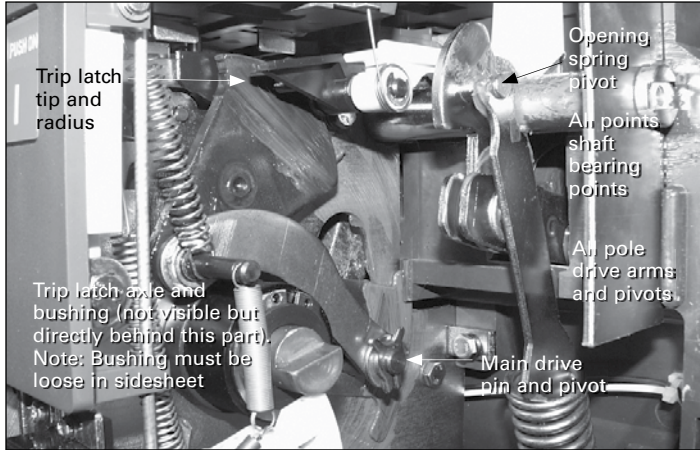
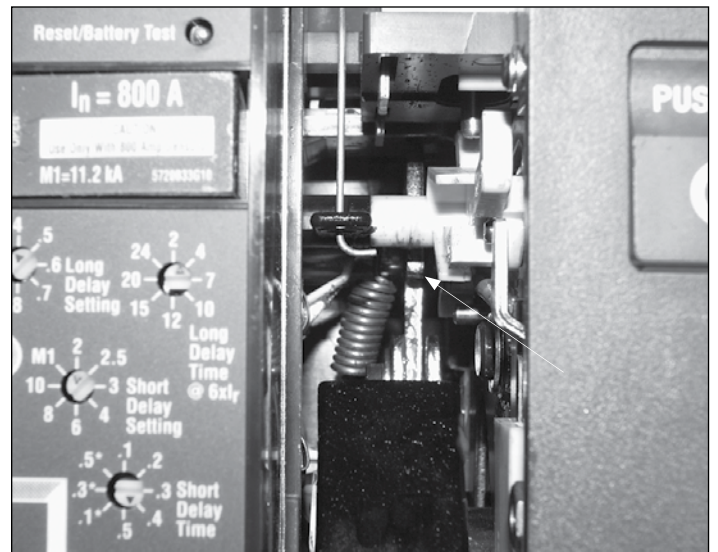

Figure 101. Magnum DS lubrication
Figure 106. Magnum DS lubrication
3. Inspect all sliding or rolling parts for cleanliness and adequate lubrication. Refer to **Table 23** and **Figure 101—Figure 106**.